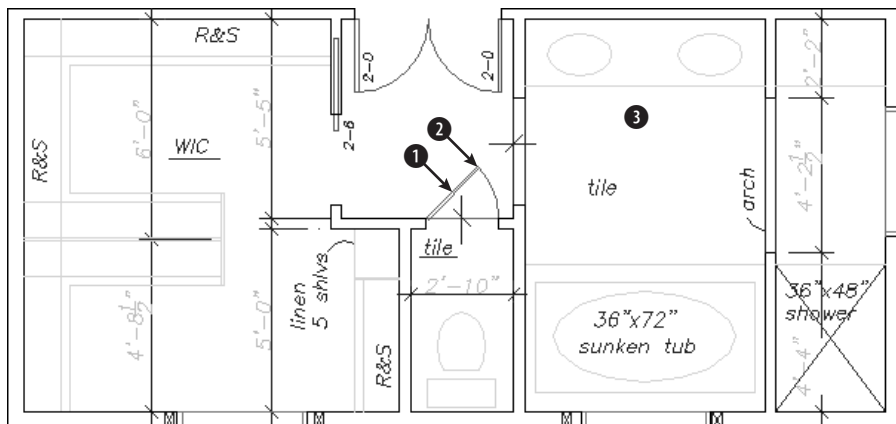

Figure 13-5: The master bathroom
2. Save the file as `ab13-01.dwg` in your AutoCAD Bible folder. This is a master bathroom plan drawing, as shown in Figure 13-5. Make sure OSNAP is on. Set running object snaps for endpoint, midpoint, and intersection.
Specify bottom-center point of text: *Use the Midpoint running object snap to pick 1 in Figure 13-5.*
Specify middle point of text: *Pick 3 in Figure 13-5. (This point doesn't have to be exact.)*